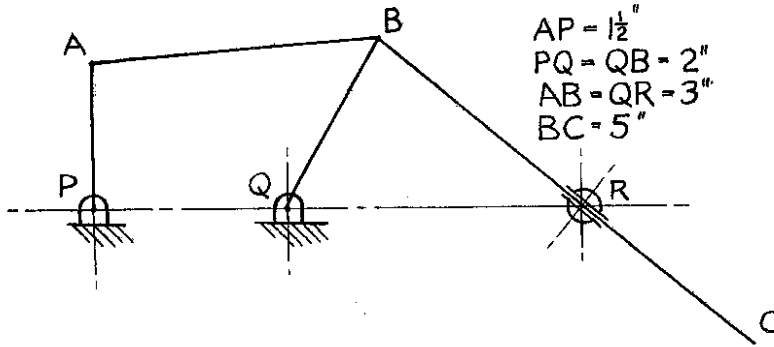

FIGURE 2
3. Figure 2 shows a mechanism in which links AP and BQ rotate about fixed axes P and Q, perpendicular to the plane of the diagram, whilst rod BC slides through a trunnion R which can rotate about a fixed axis. When the angle APQ = 90° as shown, PA has an anticlockwise angular velocity of 20 rad/s and an anticlockwise angular acceleration of 200 rad/s2. Find: